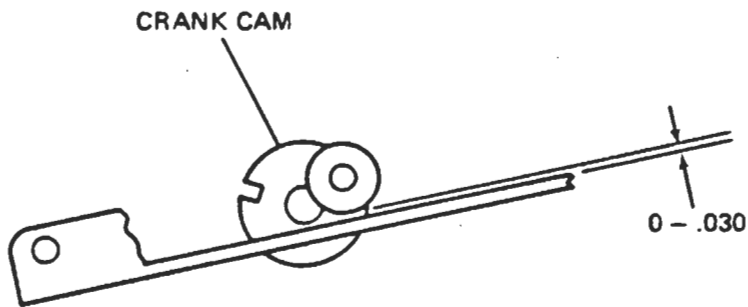

Figure 6-13A. Eject Motor Cam Alignment Check - Carrier Open
- d. Depress eject button on bezel and observe the crank cam rotate to a point where the bearing follower is just clear of impacting the carrier plane, i. e. , 0-.030". Once the carrier is open there must be no further contact between the bearing follower and carrier. (Figure 6-13A)